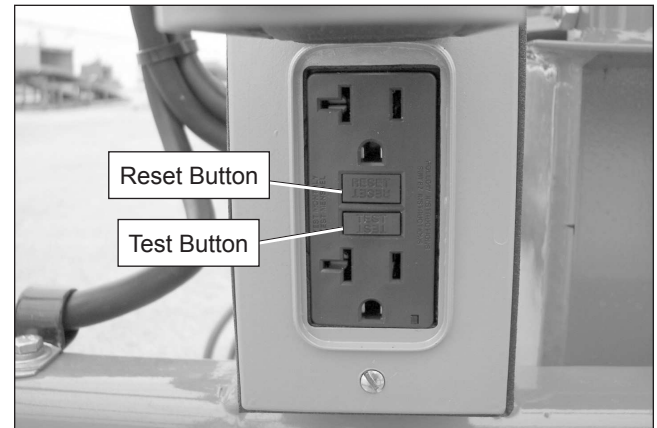

Figure 7.26 – Electrical Outlet
1. Push the test button (refer to Figure 7.26).